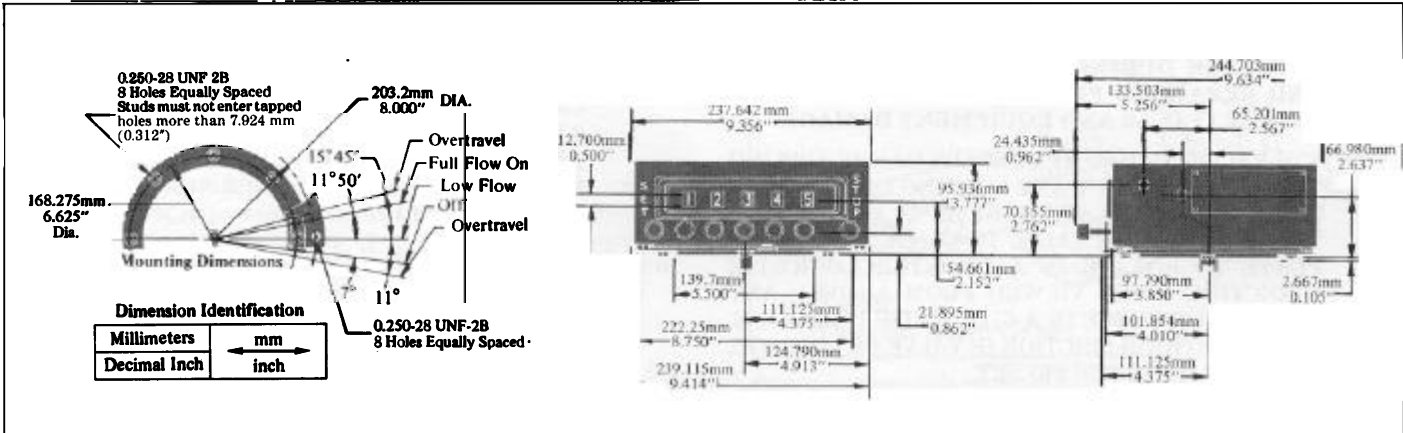

Figure 1. Exterior and Mounting Dimensions Series 7889 Preset.
- Mounting.** See Figure 1. There are eight tapped mounting holes for use with ¼-28 screws. The Preset is designed to mount directly on a Liquid Controls, Smith or Tokheim Flow Meter. Adapters are available for mounting on Brodie, Neptune, Rockwell or Keene (Bowser) meters.
- Valve and Switch Connections.** The Preset can be connected to a two-stage valve by customer-supplied, direct linkage or by an electrical switch with linkage. Either linkage connects to a rotating knockoff plate on the bottom of the Preset case with a ¼-28 screw (Figure 1). The rated first-stage valve load is 60 pounds.
- Outline Dimensions.** See Figure 1.
- Output (Knockoff).** Two-stage knockoff. Unit counts down from preset number. First stage knockoff point is set at the factory to customer's specification at 90, 80, 70, 60, 50, 40, 30, 20, 10, 9, 8, 7, 6, 5, 4, or 3. An optional three-finger rake provides first stage knockoff at a number between 900 through 100 in increments of 100. The setting can be internally changed by the customer in the field. Second (final stage) knockoff occurs when all wheels reach zero. See Figure 1 for angular travel of knockoff plate.
5. Verify that after the valve closes, the knockoff plate has rotated the correct distance of 15°, 45° plus 7° (Figure 1) and that there is some overtravel still left in the plate.